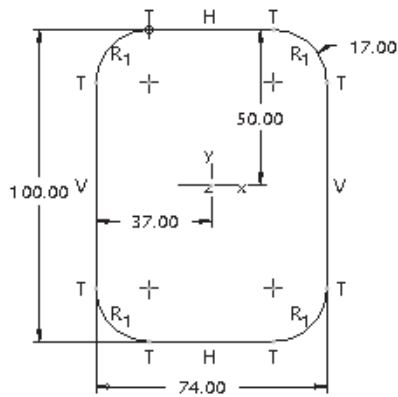

Figure 8-120 Sketch with dimensions and constraints for the third section
- Create the third section for the blend feature, refer to Figure 8-120.
1. Draw the sketch for the third section, insert a reference coordinate system, apply constraints and dimension to the sketch, and modify the dimensions, as shown in Figure 8-120.